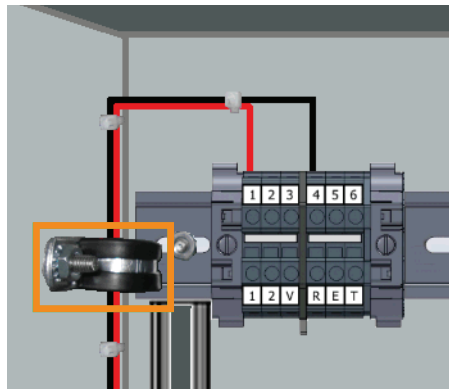

Figure 4 Secure 12 V Terminal Block Wires
- Step 5. Install the wire clamp to the side of the cabinet with a nut and route the wires through it. See *Figure 4*.